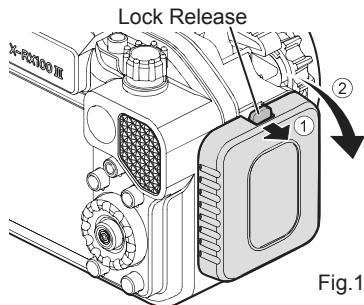

Fig.1
- 1 Push the Lock Release outward to unlock as indicated by ①, and rotate the lock knob clockwise as indicated by ② to lift the rear cover from the front case (Fig. 1)**